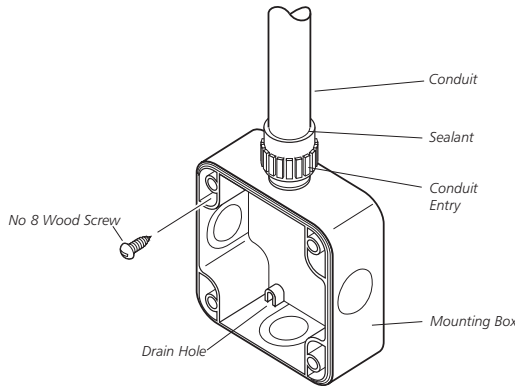

Figure 4
8. Seal the conduit and cable entry with a non setting conduit sealant such as Egaweld™ No. 2. Refer to Figure 4.